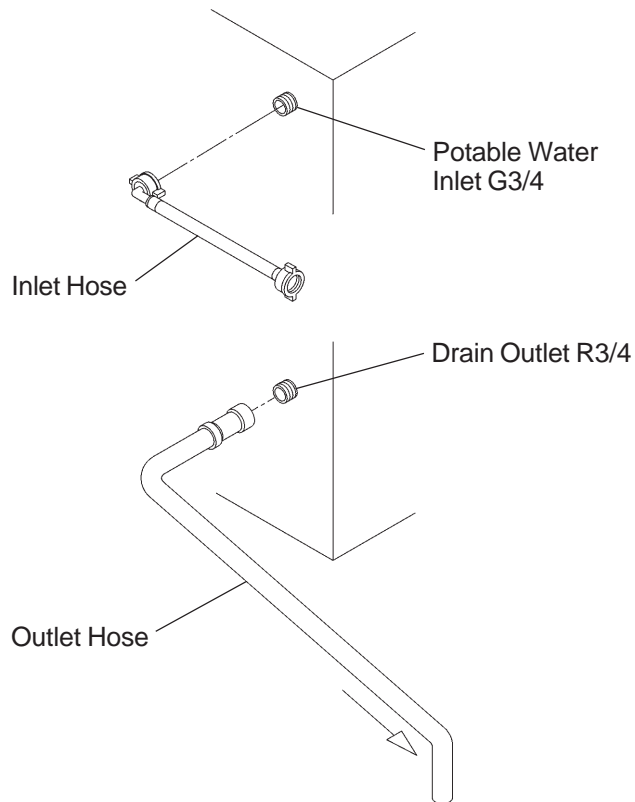

Fig. 4
- 1) Attach the angled end of white flexible inlet hose (accessory) onto the G3/4 fitting on the rear of the icemaker as indicated (Fig. 4), ensuring rubber sealing washer is correctly positioned. Hand tighten sufficiently to provide leak free joint.
- 3) Hand tighten grey flexible outlet hose (accessory) onto the R3/4 fitting on the rear of the icemaker as indicated (Fig. 4), ensuring rubber sealing washer is correctly positioned to obtain a leak free joint. The pipe can be cut to length as necessary to suit position of main drain.